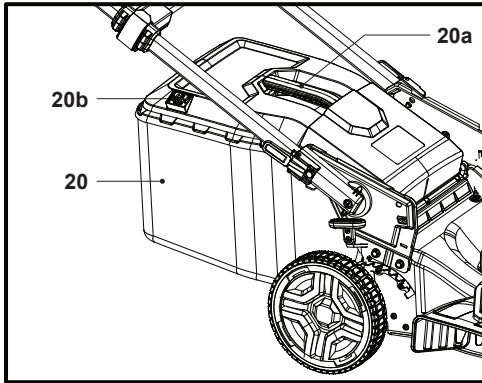

Fig. 12
1. When the hatch (20b) is opened the grass catcher (20) has sufficient volume left to collect grass (Fig. 12).